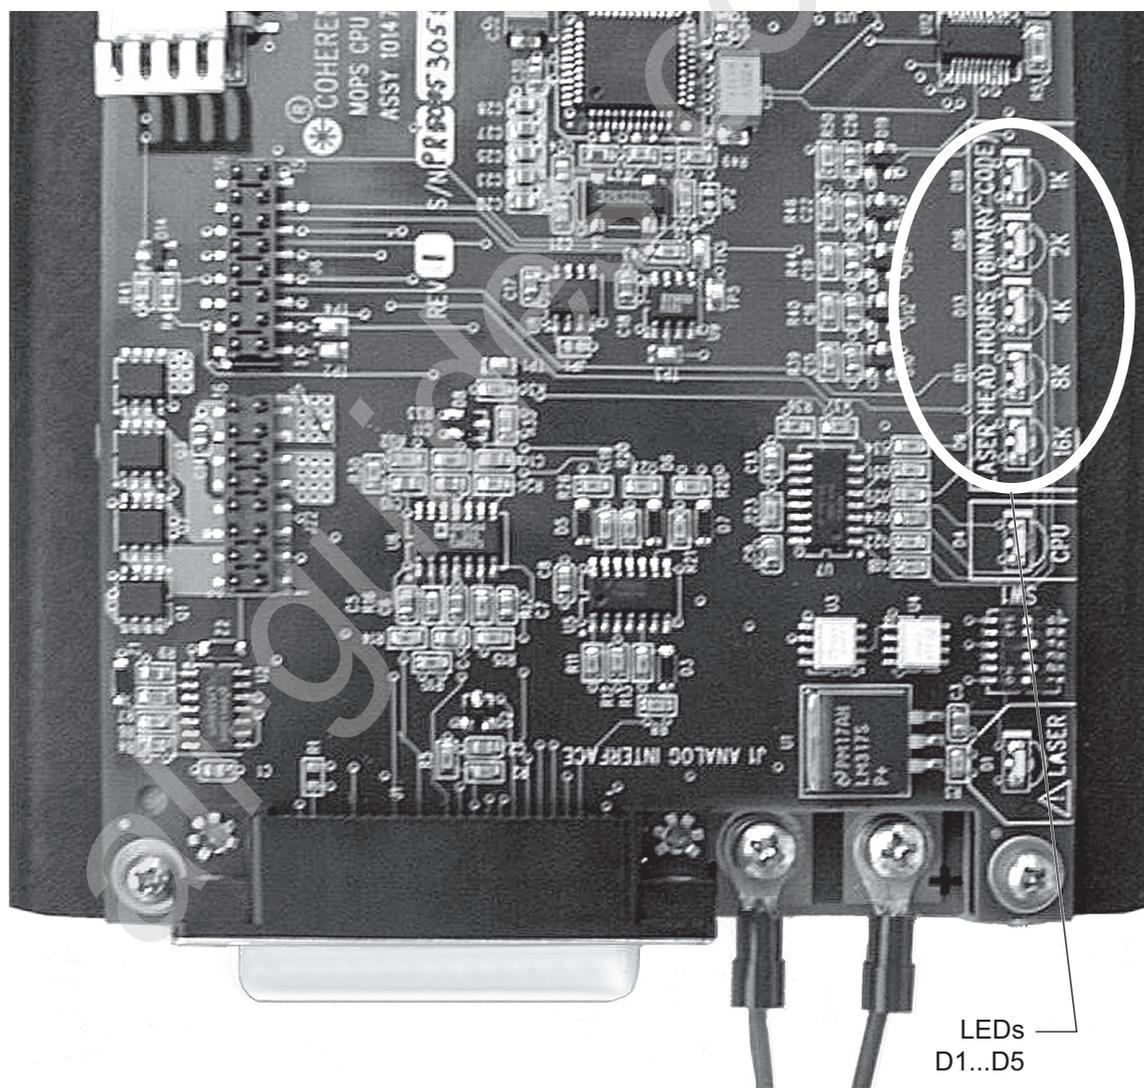

Figure 3-12. LEDs for Head-Hours
E.g., if D1 & D3 are ON, the head-hours would be 5000 to maximal 5999 hours. The display allows readouts to 31000 hours in 1000 hour increments. The LEDs are located on the upper PCB board of the Sapphire OEM controller HP (see Figure 3-12, below) and marked with "D1"... "D5."